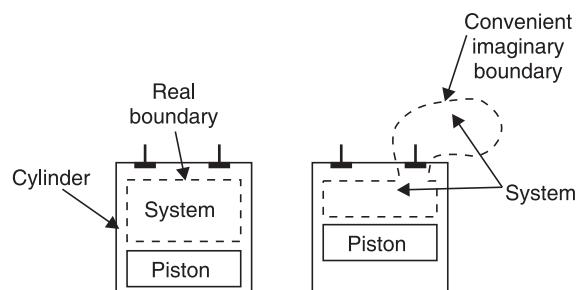

Fig. 1.2. The real and imaginary boundaries.
**Boundary.** The *actual or hypothetical envelope enclosing the system* is the boundary of the system. The boundary may be fixed or it may move, as and when a system containing a gas is compressed or expanded. The boundary may be *real* or *imaginary*. It is not difficult to envisage a real boundary but an example of imaginary boundary would be one drawn around a system consisting of the fresh mixture about to enter the cylinder of an I.C. engine together with the remanants of the last cylinder charge after the exhaust process (Refer Fig. 1.2).